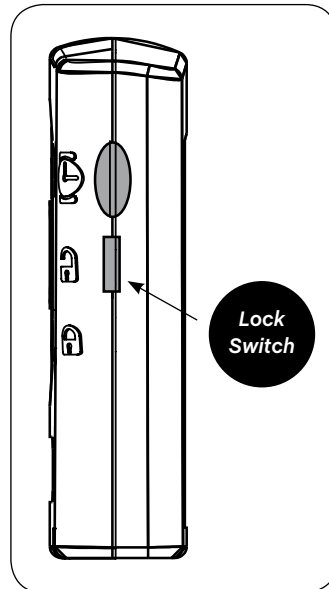

figure 7A: Check Device Charge
- A. To prevent accidental activation during shipping, the device will arrive to the user in the 'locked' position. To unlock the device, slide the *Lock Switch* on the **sam** Power Controller 'up' into the 'unlocked' position (Figure 7A).